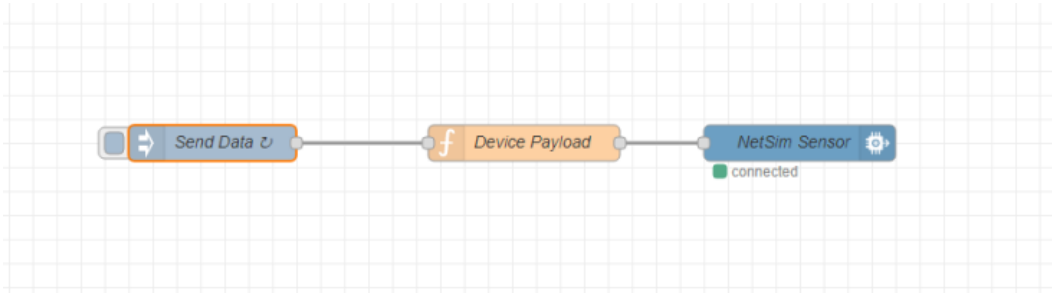

Figure 1.1 Flow design for Multiple sensors
- Configure the device present in the flow graph in Figure 1.1,